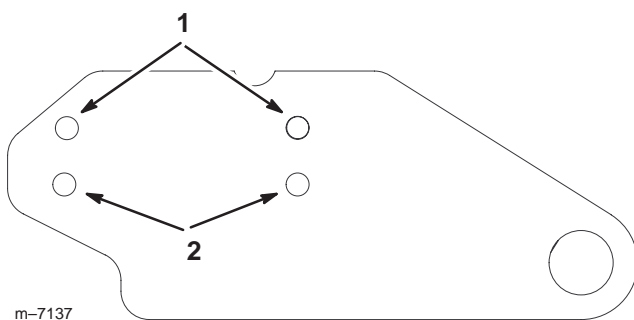

Figure 4
- Using the upper rear hole, install the axle to right side of the machine using 1 previously removed bolt, 1 new long spacer, and 1 locknut (3/8 inch) (Figs. 4 and 5).
- Using the upper front hole, install the axle to right side of the machine using 1 bolt (3/8 x 4-1/2 inch), 1 new long spacer, 1 short spacer on the outside of the guard, and 1 locknut (3/8 inch) (Figs. 4 and 5).